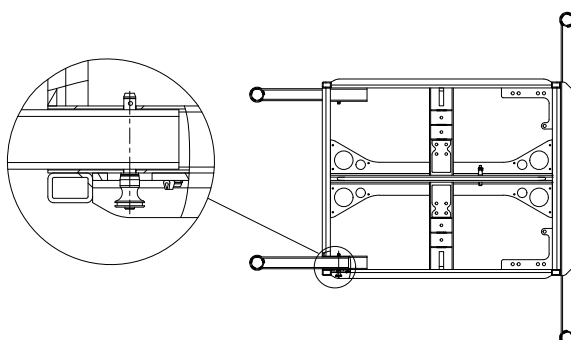

Figure 4.5.3 – Front-mounting the VERA ORF900 outrigger on the VERA RF900
3. Always insert all quick-lock pins completely through all square tubes (see figure 4.5.3 left).